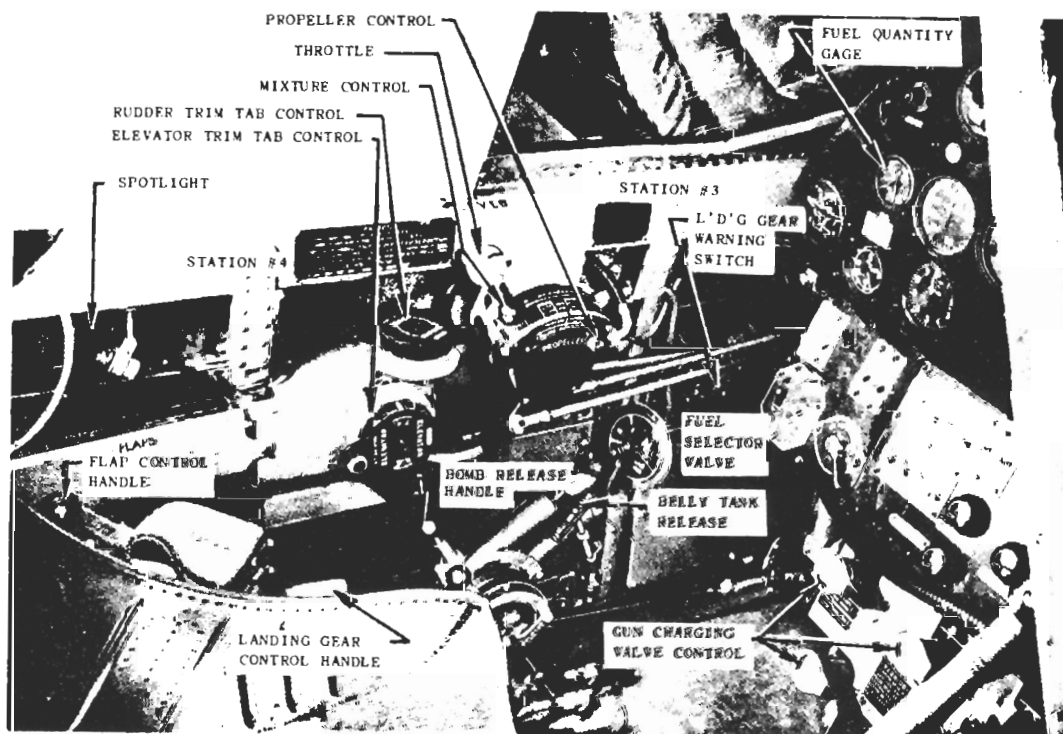

Figure 8 - Cockpit - Left Side
(2) Aileron and Elevator. - Conventional control stick, equipped with a thumb-operated hydraulic system "OFF-ON" button on the top of the grip, and a squeeze type machine gun trigger lever on the front side of the grip.
(3) Rudder Control. - Conventional pedals and toe-operated brakes. Each rudder pedal may be adjusted to desirable length by first pushing inboard on the spring-loaded adjustment lock which permits the pedal to float free on its hinge. After moving pedal to desired location, release lock and juggle pedal slightly to allow locking pin to snap into position. ALWAYS ADJUST BOTH PEDALS TO THE SAME LENGTH.
(4) Elevator Trim Tab Control. - The trim tab is actuated by a round control knob (figure 8) on the left side of the cockpit. The knob has calibration marks around its outer circumference. Rotating the knob clockwise (forward) puts the airplane nose down.
(5) Rudder Trim Tab Control. - The rudder tab is actuated by a round control knob (figure 8) on the left side of the cockpit. Rotating it to the left (counter-clockwise) turns the nose of the airplane to the left.
(a) Gear Down. - The landing gear may be lowered (WHEN THE IAS IS 175 MPH OR LESS) by pulling the safety latch bolt on the landing gear lever (figure 8) forward, and lowering the handle to its "DOWN" position. Press the hydraulic control switch button on top of the control stick until a few seconds after the indicator (figure 10) shows the gear to be down and locked in place. As a final check, operate the hand pump (figure 9) and if a high pressure is required to move it, the gear is down. If the landing gear warning horn fails to sound when the throttle lever (figure 8) is closed, the landing gear locks are definitely in place. RETURN THE CONTROL LEVER (FIGURE 8) TO "NEUTRAL." The safety latch bolt prevents the accidental raising of the handle beyond the neutral position.
(b) Gear Up. - The gear may be raised at any speed. Pull the safety latch bolt on the landing gear control lever (figure 8) forward, and raise the handle to its "UP" position. Press the hydraulic switch button on the top of the control stick until the indicator (figure 10) on the instrument panel shows the gear completely up. RETURN CONTROL HANDLE (FIGURE 8) TO "NEUTRAL" AFTER GEAR IS RETRACTED.
(a) Flaps Down. - Move flap control lever (figure 8) to "DOWN" position. Press button on top of control stick until a second or two after indicator shows flaps are down. If a high pressure is required to move the auxiliary hand pump, the wing flaps are fully extended. RETURN FLAP CONTROL HANDLE TO "NEUTRAL" AFTER EXTENSION.
(12) Fuel Tank Gages. - Gages are direct visual reading gages. It is not necessary to operate any switch to place them in operation.
(13) Fuel Selector Valve. - Conventional. (See figure 8.)
(4) Propeller Control. - Whenever the airplane is being operated, the safety switch (figure 10) should be "ON." When the switch opens due to overload, it may be reset by placing it in the "OFF" position and then returning it to the "ON" position. Propeller pitch may be changed independently of the rest of the propeller control system by holding the three-way toggle switch (figure 10) in either the "INC. RPM" or "DEC. RPM" position until the desired rpm is obtained. The automatic constant speed control may be used by placing the switch in the "AUTO" position and setting the propeller governor control lever (figure 8) to the required rpm.
- (3) Landing gear control handle (figure 8) in neutral.
(4) Flap control handle (figure 8) in neutral.
(8) Fuel selector (figure 8) on "RES." Do not turn selector valve to "BELLY" if the belly tank is not installed.
(12) Throttle (figure 8) wide open.
(13) Mixture control on "IDLE CUT-OFF."
e. With mixture control (figure 8) in "IDLE CUT-OFF" position and the throttle wide open, operate the electric fuel pump switch (figure 10) to obtain 16 pounds per square inch.